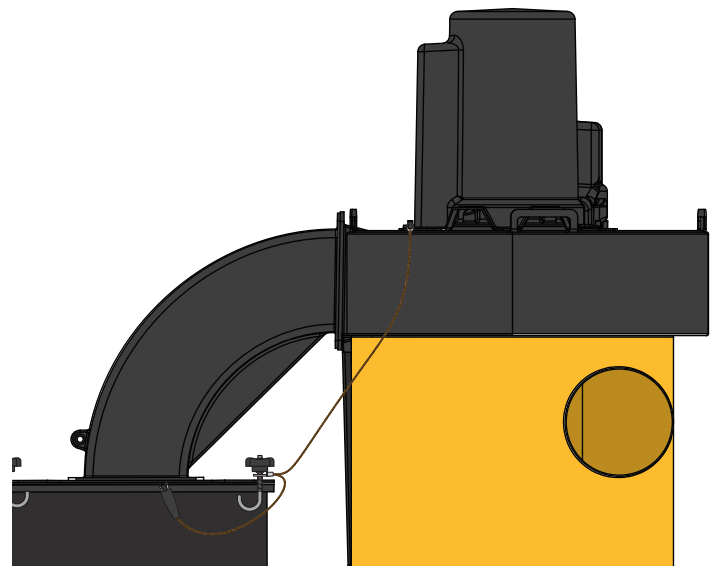

FIG. 14
To ground the filter, attach the ring terminal on the braided ground wire from the Motor Assembly (A) to a J-bolt on the filter plate, under the Thumb Nut, then attach the alligator clip to the filter's cage [FIG. 14].